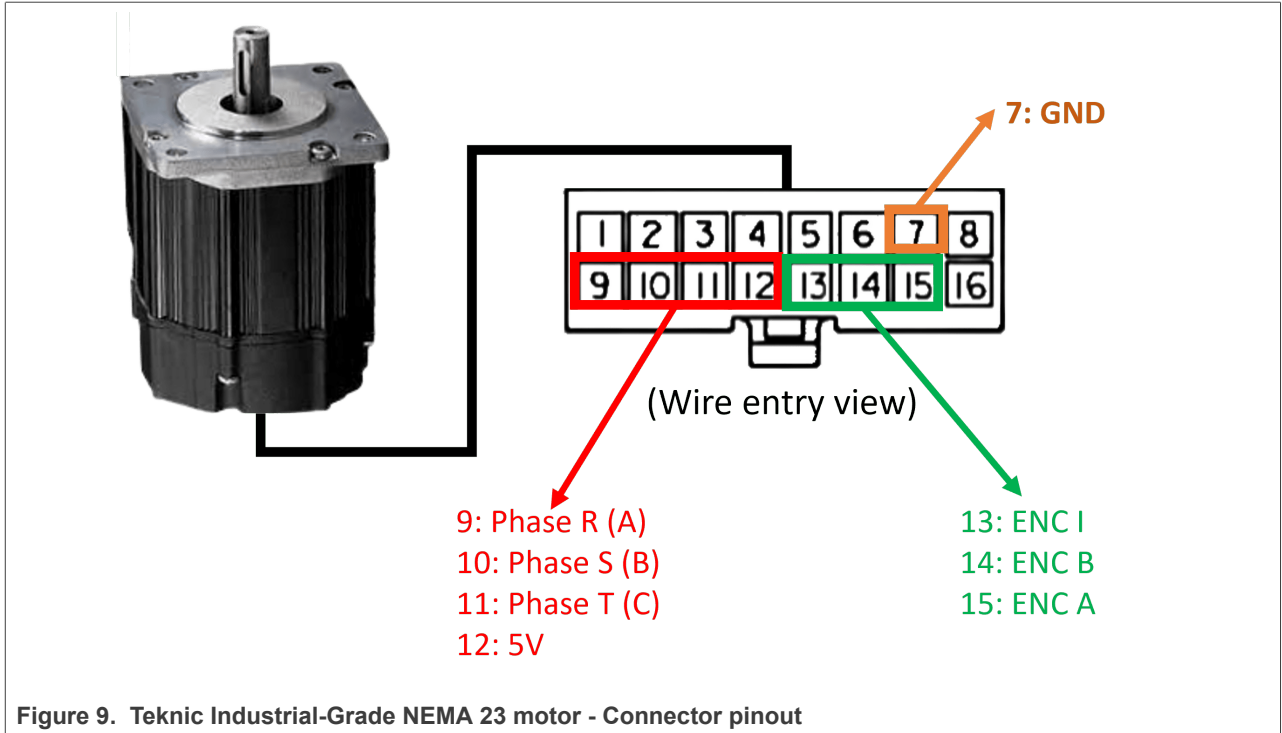

Figure 9. Teknic Industrial-Grade NEMA 23 motor - Connector pinout
1. Identify in the motor connector the *incremental encoder signals* (5V, GND, ENC\_A, ENC\_B, ENC\_I) and the *motor phase signals* (R, S, T or A, B, C). These signals must be routed to the power stage board using the proper wires based on the motor manufacturer recommendation for wire gauges. The *Teknic Industrial-Grade NEMA 23 motor* (M-2310P-LN-04K) used as reference in this document has the pinout shown in Figure 9: